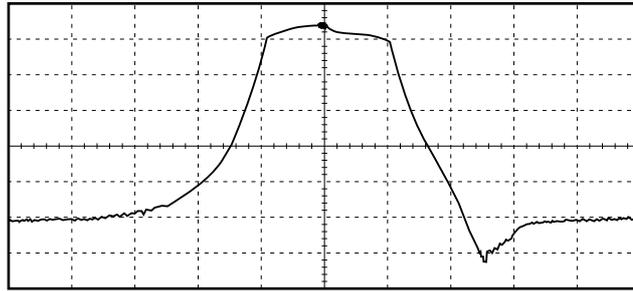

Figure 4. RF adjustment.
- 8 With RXEN set to **On** and IF control set to **Out**, adjust L202 until the oscillator starts, see figure 4